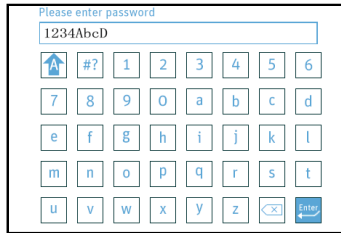
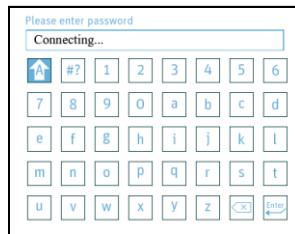

Fig. 15-10
Fig. 15-11
(4) After the desired WiFi network is found, press the **Knob** . Turn **the Knob**  to select this WiFi network. Press **the Knob**  to access the WiFi password input interface. The password is at least 8 characters in length, and can contain uppercase and lowercase English letters and digits 0 ~ 9, as shown in Fig. 15-10. After the password is entered, turn **the Knob**  until the cursor stays on the **Confirmation Key** . Press **the Knob**  to connect to the WiFi network, as shown in Fig. 15-11. At this moment, the user must not perform any operations, and should wait 0-15 seconds for the connection result.